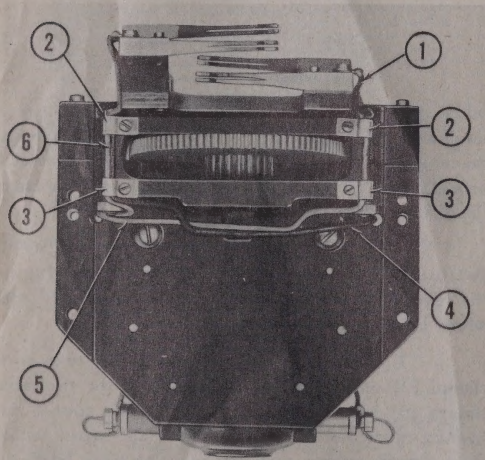

Figure 281 — Torque Motor Wiring, Housing Side
6. Using a 2-56x5/16-inch binding-head screw and flat washer, attach the 13/4-inch black lead (8) to the remaining terminal of the torque motor field coil which is under the steel gear (10).
7. (See figure 281.) Install the two wire clamps (2) onto the frame assembly and the two wire clamps (3) onto the plate assembly, using four 2-56x 1/4-inch fillister-head screws. Install the wires under these clamps, making sure that the long black lead (4) runs across and falls under the clamps on the opposite side with the short red lead (6) from that side, and that the long red lead (5) runs across and installs under the clamps on the opposite side.